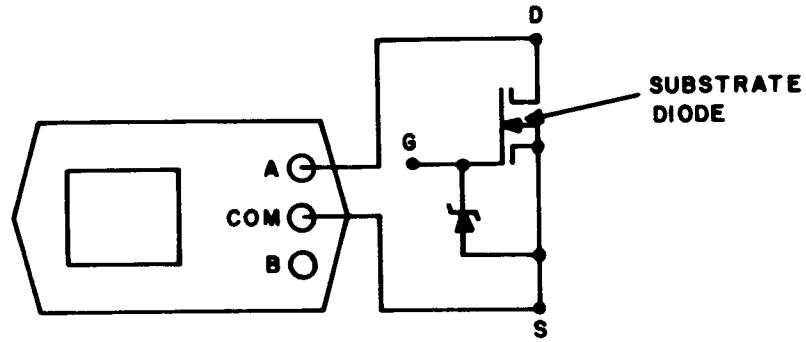

Figure 4-24. Tracker Connections to the Gate and Source
TESTING THE SOURCE AND DRAIN. To test the source and drain, connect the test probes to the source (S) and drain (D) terminals as shown in Figure 4-24; the gate (G) terminal is not connected. The tracker test signal is a sinewave and during the time the voltage at D is positive with respect to S, the D and S terminals appear as an open circuit to the tracker. However, when S is positive with respect to D, the substrate diode is displayed by the tracker. If the gate (G) is in contact